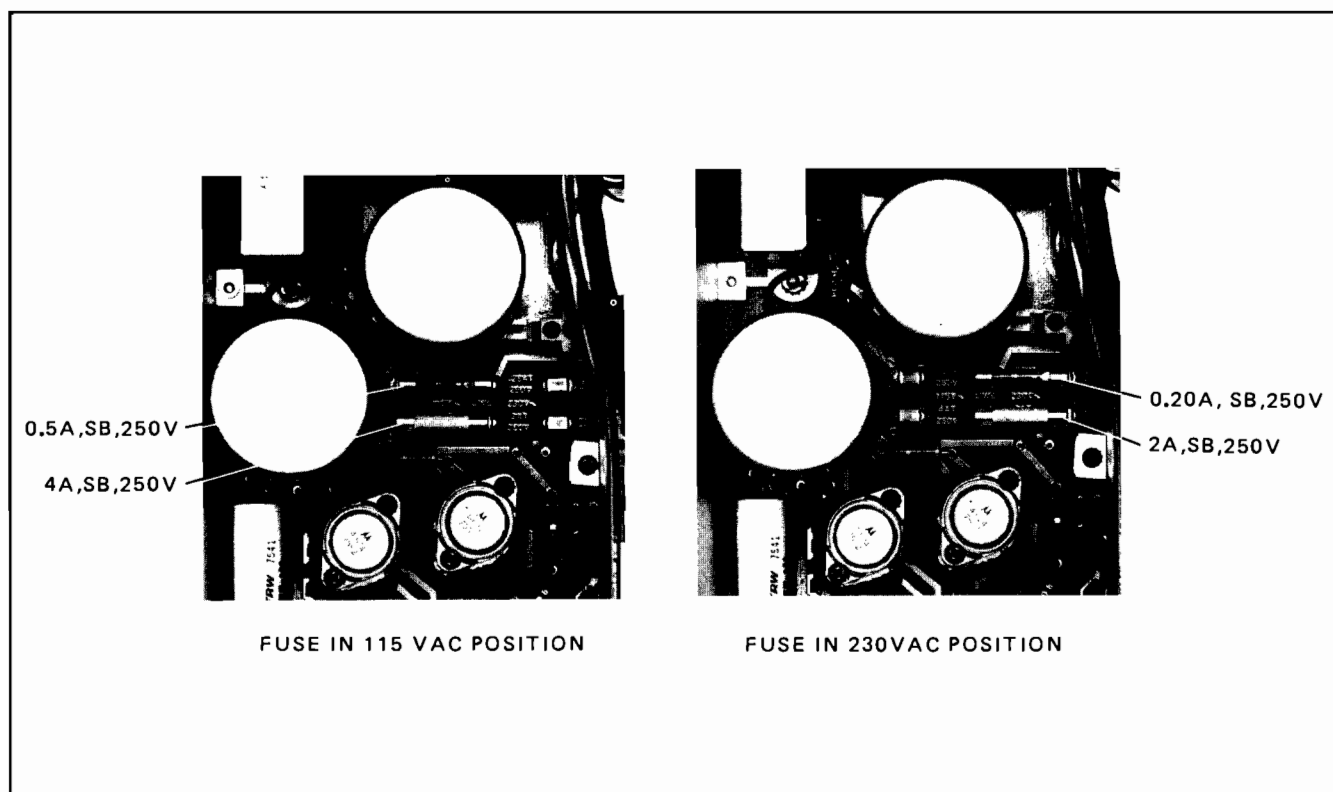

Figure 11-3. Fuse Positions for 115 AC and 230 VAC Line Voltage
3. Select the operating voltage by inserting the proper fuses into the appropriate locations shown in figure 11-3. For 115 volts, use a 0.5A, SB, 250V fuse and a 4A, SB, 250V fuse. For 230 volts, use a 0.20A, SB, 250V fuse and a 2A, SB, 250V fuse.